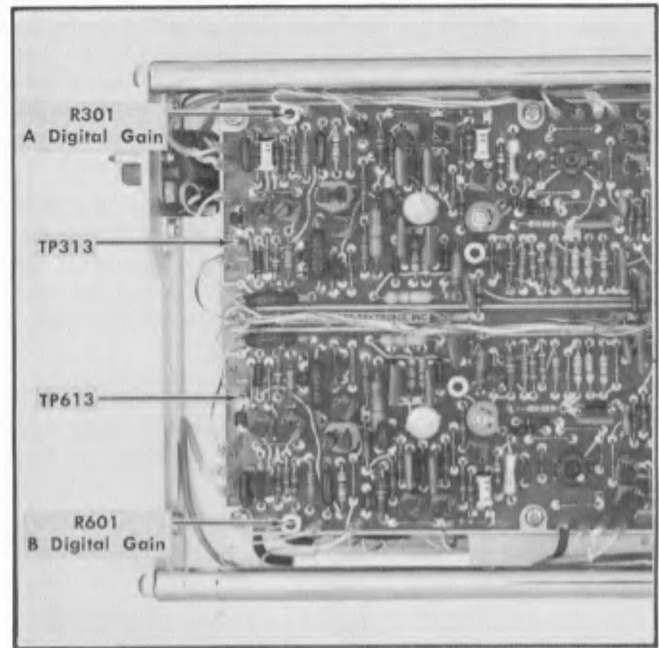

Fig. 5-14. Locations of Digital Outputs in the Type 3S2.
e. Connect the $1\times$ probe from the Type W A Input to the sampling unit Digital Output. In the Type 3S2, connect to TP313 for Channel A operation or TP613 for Channel B operation (Pin 1 or Pin 3 on the vertically mounted interconnecting plug). See Fig. 5-14 for locations. (Type 3S5 or 3S6, TP 418 CH A, or TP 438 CH B, located on the Output board.)